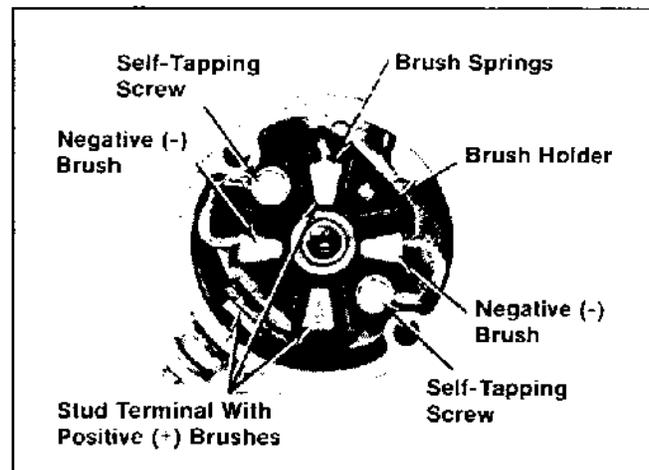
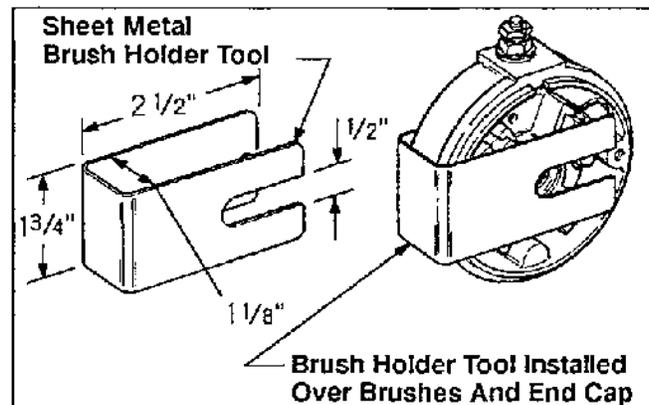

Figure 8-8. Commutator End Cap With Brushes.
Figure 8-9. Brush Holder Tool.
1. Remove the brush springs from the pockets in brush holder. See Figure 8-8.
NOTE: Use a brush holder tool to keep the brushes in the pockets. A brush holder tool can easily be made from thin sheet metal. See Figure 8-9.
Replacing brushes in the solenoid shift starts is exactly the same procedure as explained in the previous sub-section. Refer to page 8.12, figure 8-8, figure 8-9.